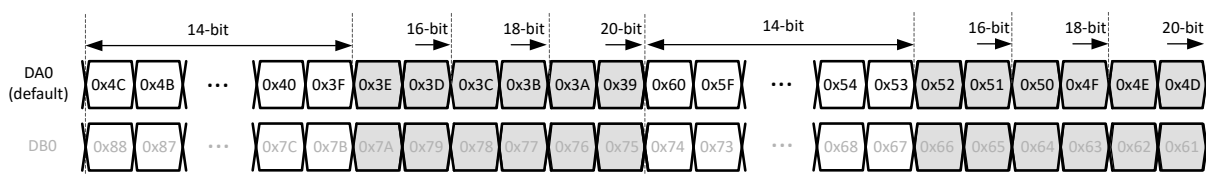

图 8-45. 1/2-wire output bit mapping
**1/2-wire mode:** The output is only lane DA0 and the sample order is programmed into the 40 addresses of chA (from 0x39 to 0x60). It covers 2 samples (one for chA, one for chB) as shown below. If desired, it can be duplicated on DB0 as well (using addresses shown 图 8-45) in order to have a redundant output. Lane DB0 needs to be powered up in that case.